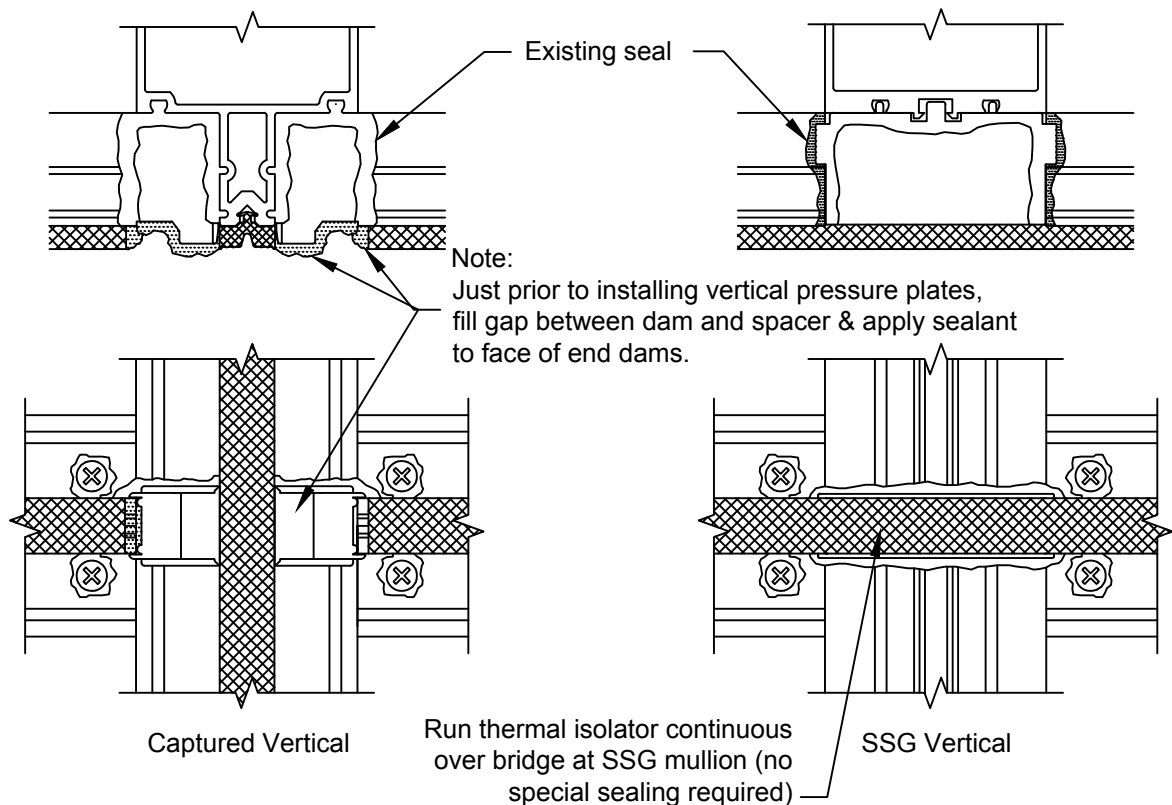

Figure 20
- 3.9 Prior to installing vertical pressure plates, apply sealant to the face of each horizontal zone plug. SEE FIGURE 20. Vertical pressure plates must be installed before the horizontal pressure plates are applied.